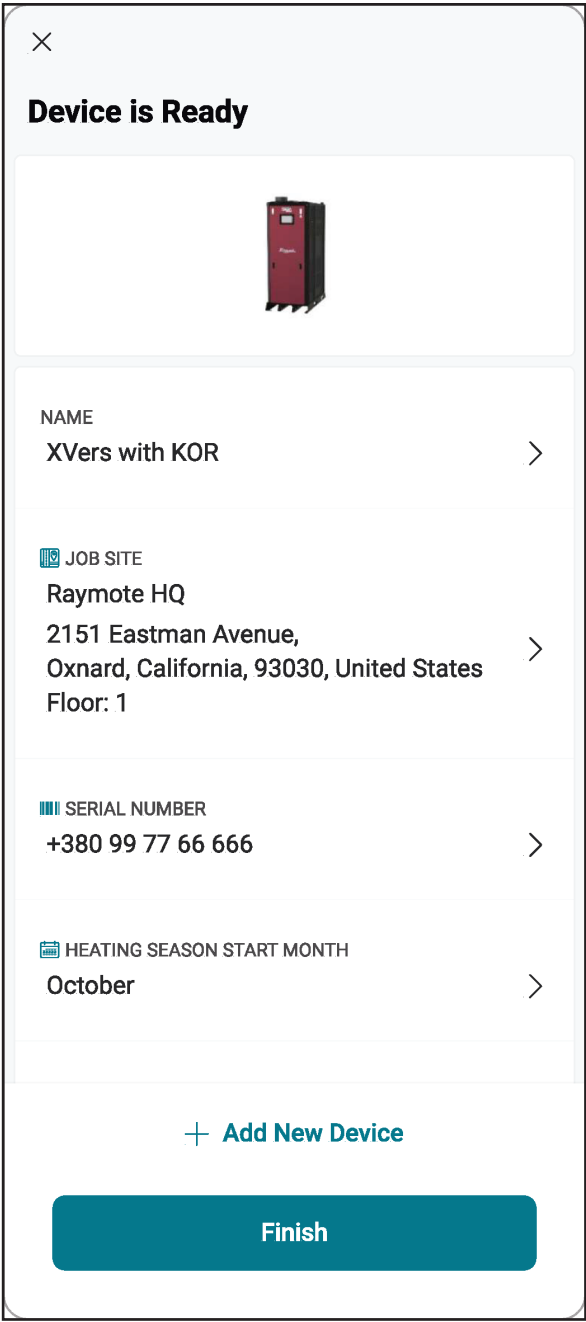

Figure 29. Review Information
2. Press the "Set up as new" button to enter job site and service information. When available, press the "Apply recently used profile" button to use information already used in another unit setup. See **Figure 29**.